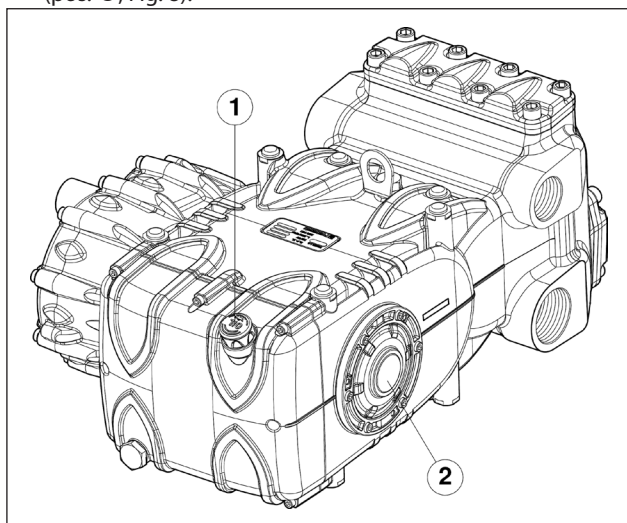

Fig. 8
5. Oil in the pump casing is at level, verified with a dipstick (pos. ①, Fig. 8) and exceptionally with a level indicator (pos. ②, Fig. 8).